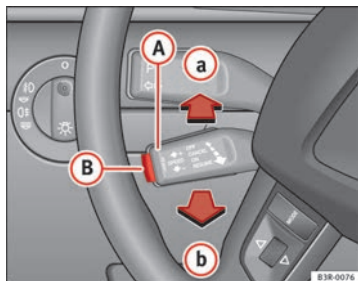

Fig. 141 Controls for the cruise control system
- Press the lever **A** ⇒ fig. 141 to position **a** (click stop not engaged).